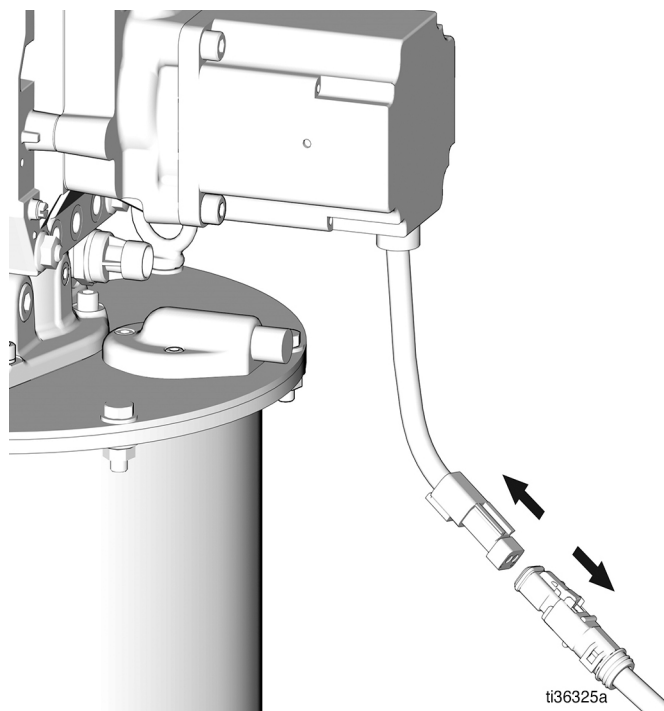

FIG. 2
1. Disconnect power to the system (FIG. 2).